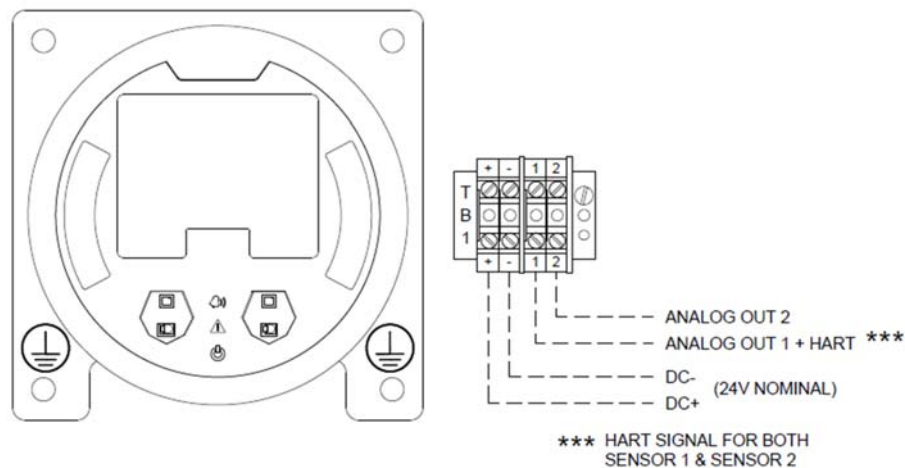

Fig. 20B TG5000 without power supply
- (1) Remove the TG5000 enclosure cover.
- (2) Use a small, flat head screwdriver to open the power and analog wire entries on the TB1.
- (3) Connect the power and analog output connections (see Fig 20B).